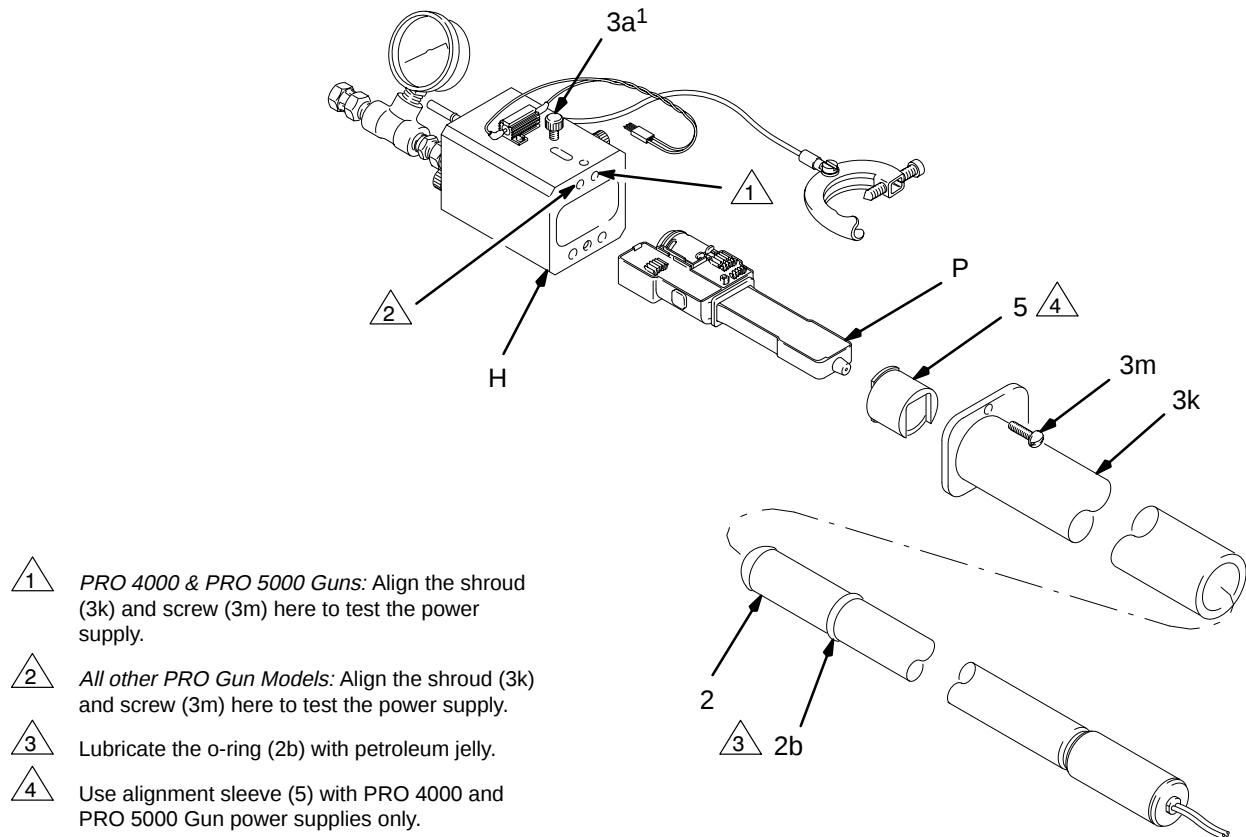

Fig. 6
3. Install the power supply cartridge (P) into the fixture (H), orientated as shown in Fig. 6.